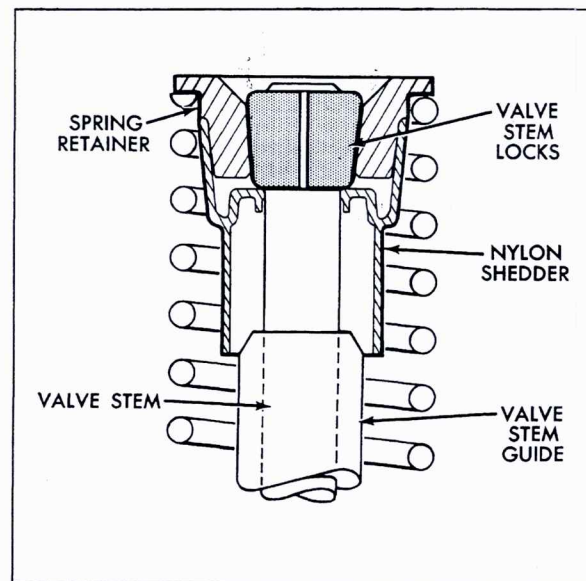

Fig. 6-113 Valve Spring Retainer and Oil Shedder
17. Lift out spring retainer and spring, Fig. 6-113.
1. Install valve spring and retainer, Fig. 6-113.